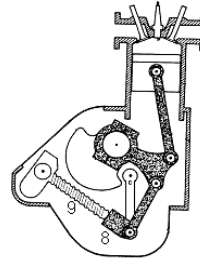
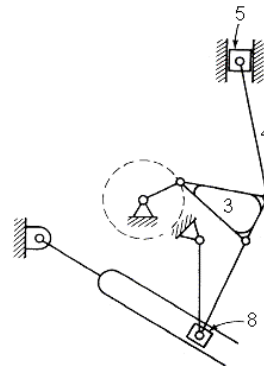

Figure 5-8 Combustion Engine with Variable Stroke
Figure 5-9 Kinematic Diagram
In **Figure 5-8** a piston engine with variable stroke is shown. The stroke can be varied by moving the control-nut (8) along the control-screw (9).
For analysis and synthesis purposes a schematic way of drawing is used. The **kinematic diagram** in **Figure 5-9** provides a clearer image of its function than **Figure 5-8**.
Link 5 (piston in **Figure 5-8**) has a sliding connection to the ground link (the wall of the cylinder) and a pivoting connection to link 4 (the piston link). The piston is a binary link.